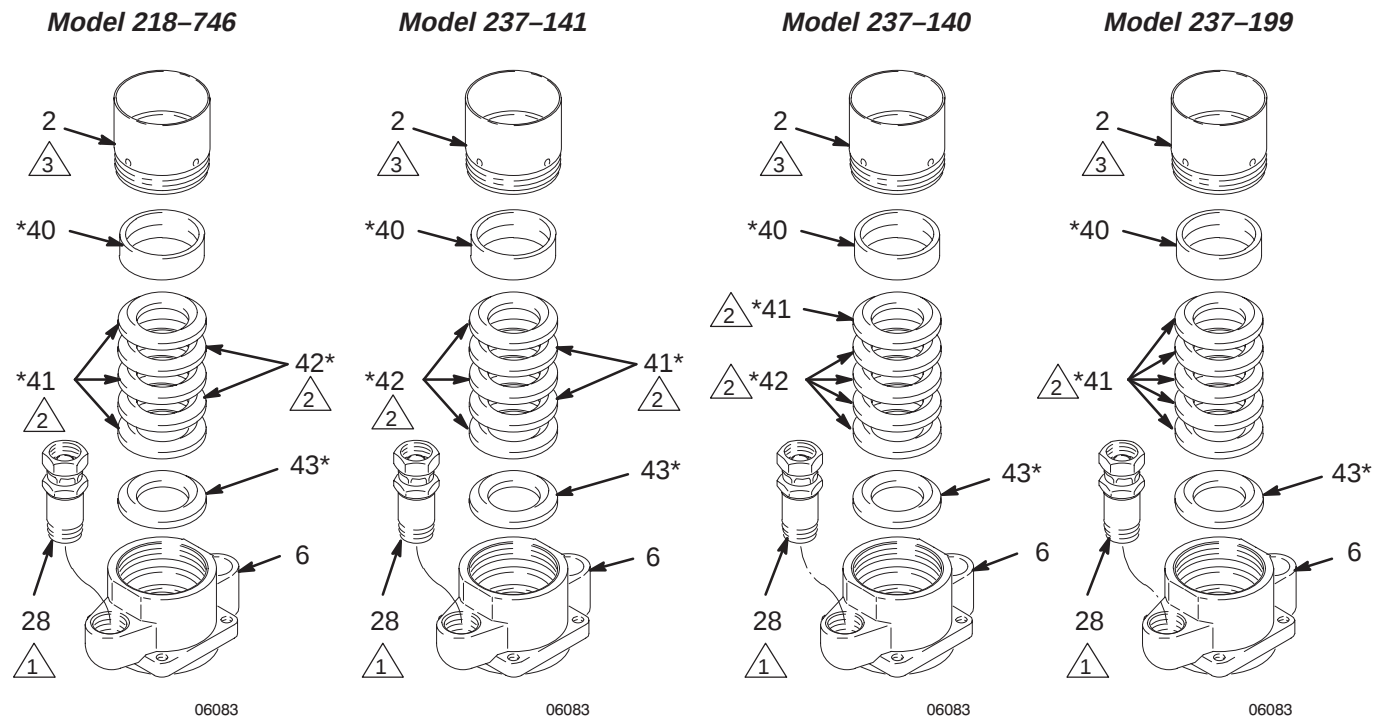

Fig. 3
3. Install the male gland, v-packings, and female gland in the outlet housing (6), as shown for your pump model (see Fig. 3). Install the v-packings one at a time, with the lips facing down.
4. Install the gasket (7*) in the outlet housing (6). Loosely install the packing nut/wet-cup (2). Insert the displacement rod assembly in the bottom of the outlet housing and push it up until the threads of the upper cap (38d) are roughly level with the top of the packing nut/wet-cup. (This makes it easier to connect the coupling nut when the displacement pump is reinstalled on the motor.)